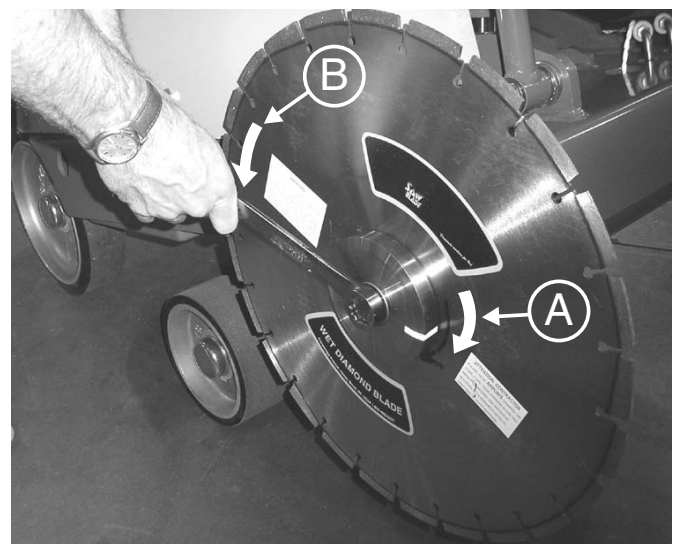

Figure 10. Aligning Flange Pin Through Blade
4. Taking note of the direction of rotation of the blade (Figure 11, Item A), insert the bushing and mounting bolt through the outer flange and blade (Figure 10).